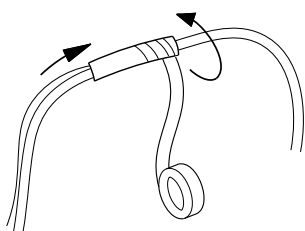

Fig. 27 Insulating the joint
5. Pull the insulating hose around the motor conductors up over the joint. Wind insulating tape or similar around the ends of the insulating hose in order to fasten it over the joint. See figs. 27 and 28.